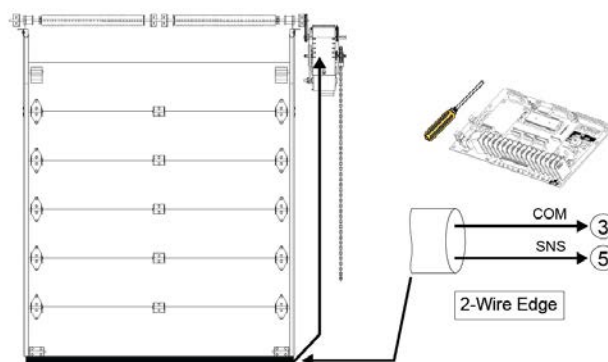

Figure 40 - Electric Reversing Edge
3. Use a coil cord or take-up reel to connect the sensing edge wires to the operator terminals. Install electric wires according to Figure 40.